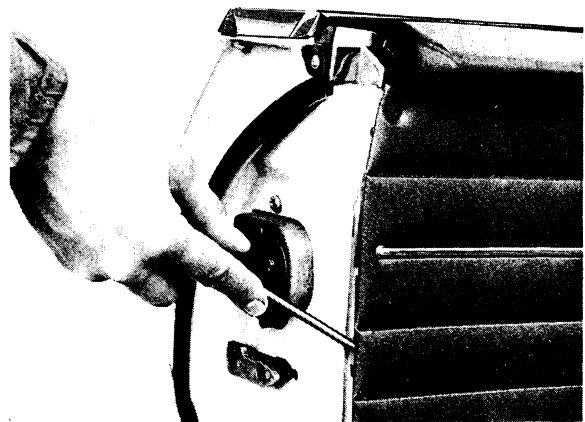

Fig. 8-9. Removing door upholstery
3. Take off the upper door panel by carefully inserting a screwdriver or similar under the edge of the panel upholstery and then levering outwards (see Fig. 8-9). When the clips have loosened from the door, lift the upholstery off upwards.